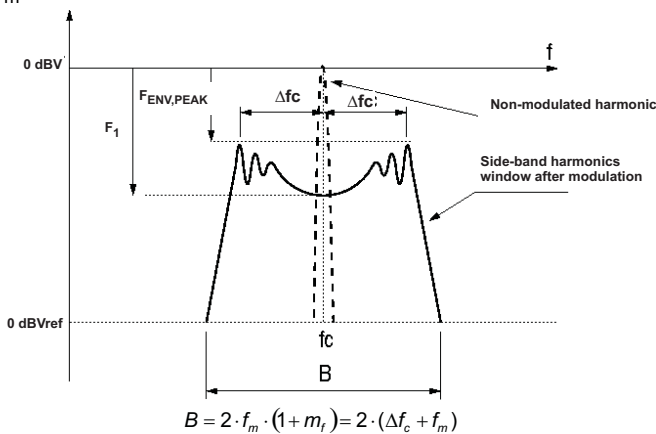
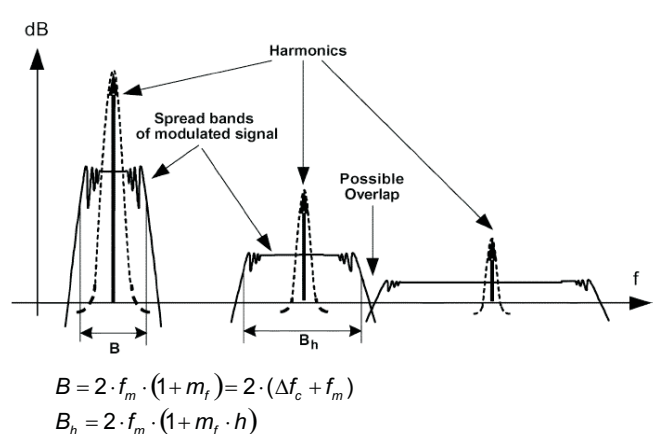

Figure 41. Spectrum of a Frequency Modulated Sin. Wave with Sinusoidal Variation in Time
Figure 42. Spread Bands of Harmonics in Modulated Square Signals (1)
Figure 41 and Figure 42 show that after modulation the sideband harmonic is attenuated when compared to the non-modulated harmonic, and when the harmonic energy is spread into a certain frequency band. The higher the modulation index ( $mf$ ) the larger the attenuation.
(1) Spectrum illustrations and formulae (Figure 41 and Figure 42) copyright IEEE TRANSACTIONS ON ELECTROMAGNETIC COMPATIBILITY, VOL. 47, NO.3, AUGUST 2005. See REFERENCES Section for full citation.